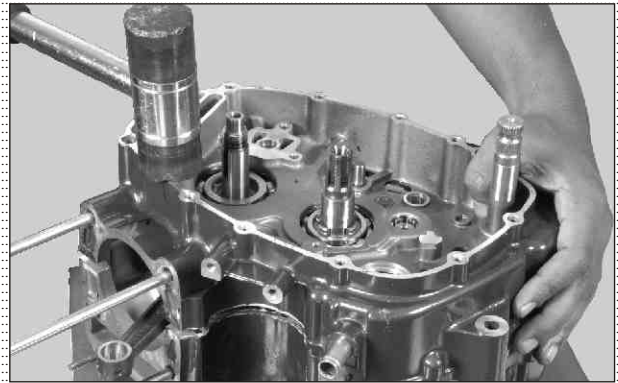

Fig. 3.184
- Apply liquid gasket uniformly to the mating surfaces of the crankcase assembly L and assemble the crankcase assembly R. (Fig. 3.184)